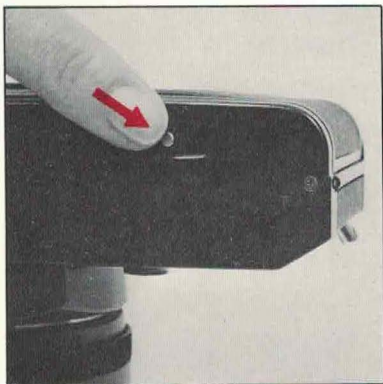

Fig. 25
1. Press in the rewind release button on the camera bottom (Fig. 25).